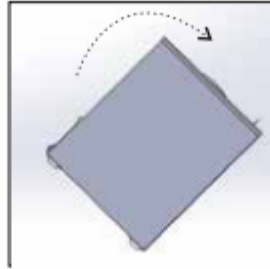
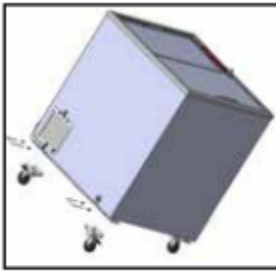

Fig. 2
Fig. 4
- Place your appliance as shown in Figure 2. Then, mount two castors with brakes in the to the back side of the container, by fixing the castors in the sockets under the container and ensure that the socket centers are aligned, as shown in figure 4. Then place the U-pins through the holes. Ensure the stability by placing the pim wedges.